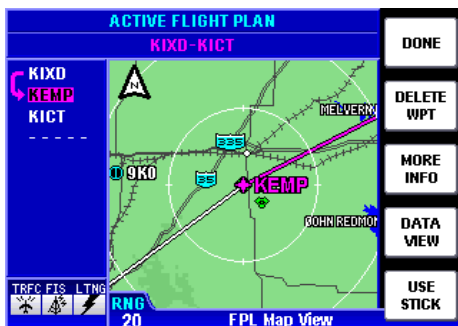

Figure 1-117
5. Press the **OK** Softkey to activate the flight plan as shown in Figure 1-117.